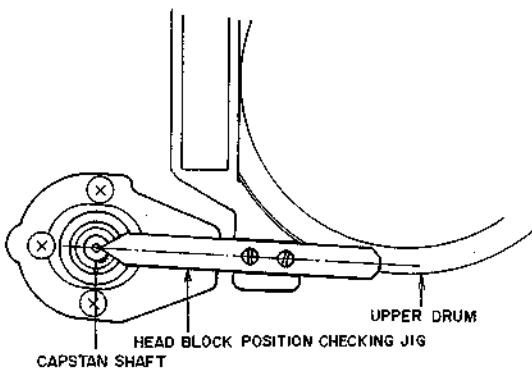

Fig. 4-15
- 6) Shift the head block by hand until the end of the head block position checking jig is aligned with the center of the capstan shaft as shown in Fig. 4-15.
9) Install the head block and ascertain that positioning is correct as shown in Fig. 4-15.